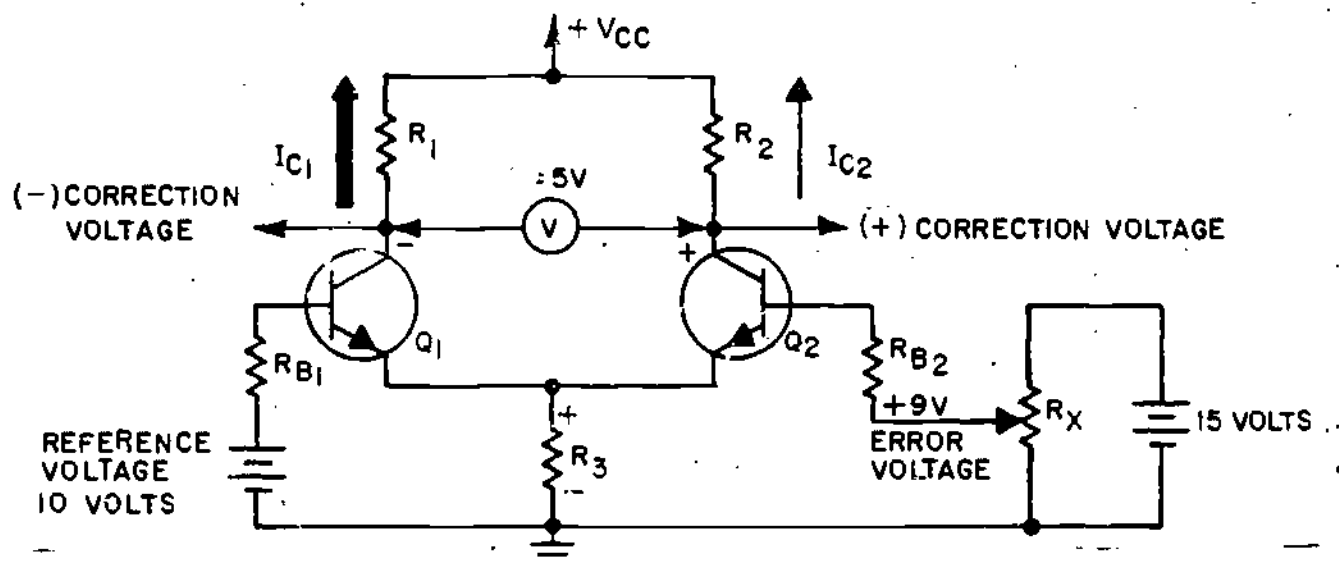

FIGURE 20
- (28.) Figure 20 shows the same schematic with the error voltage reduced to 9 volts, producing a negative 1 volt error signal. Since this voltage is one volt less than the 10 volt reference voltage, the current through Q2 decreases at the same time the current through Q1 increases. Study the schematic to make sure you understand how the voltages offset and produce a positive correction signal from the collector of Q2.